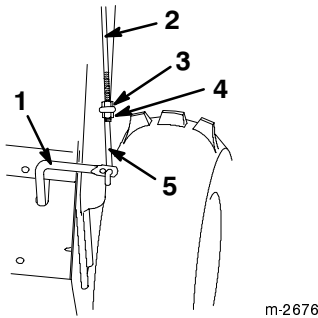

Figure 11
1. Thread a hex flange nut (flange side down) onto the upper control rod located on the right handle (Fig. 11).
2. Install the lower link through the outer hole in the lower control rod as shown in Figure 11.
3. Insert the upper control rod through the loop in the lower link (Fig. 11).
4. Thread a flange locknut (flange side up) onto the bottom of the upper control rod below the loop in the lower link (Fig. 11).
8. Tighten the hex flange nut and the flange locknut securely (Fig. 11).